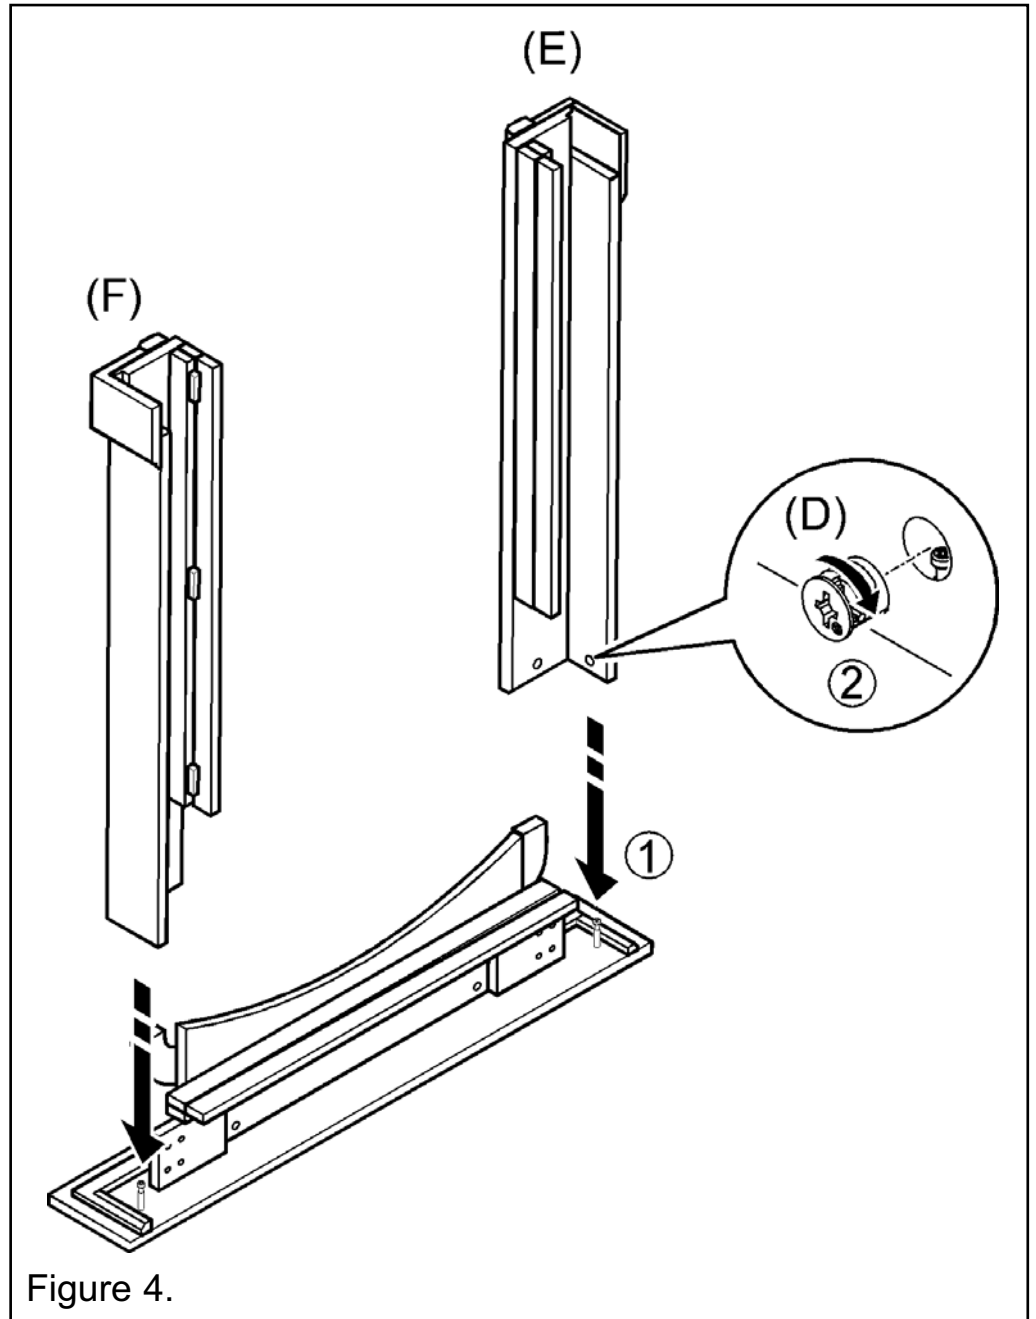

Figure 4.
- Locate the left leg (E) and right leg (F) onto the cam bolts in surround top (A) as in figure 4.
- Secure in place using four cam locks (D) as in figure 4.